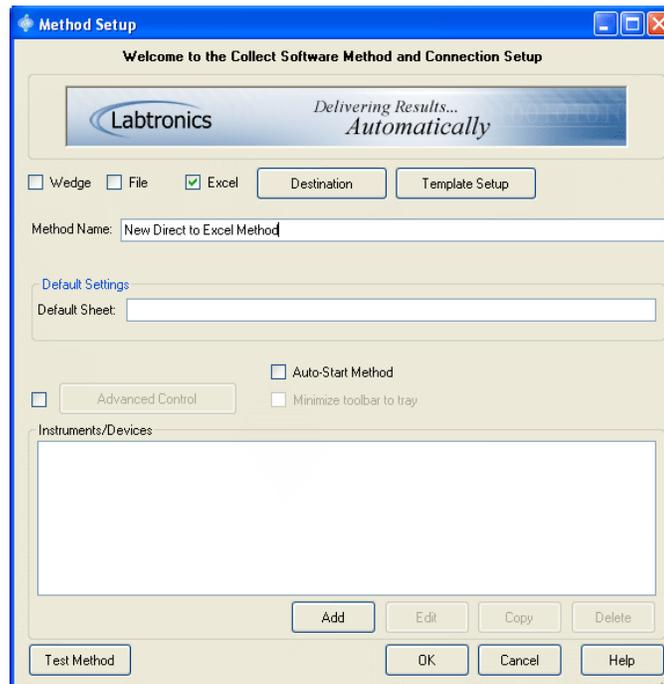

Figure 3.2: Method Setup
2. A [Method Setup] dialog window similar to the example shown in Figure 3.2 will appear.